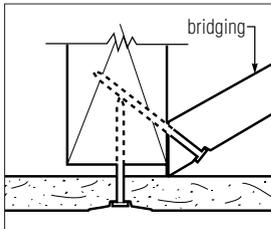

Fig. 12
**Cause:** Bridging, headers, fire stops or mechanical lines have been installed improperly so as to project beyond face of framing, preventing panels from contacting nail surface (Fig. 12). Result will be loose board, and fasteners driven in area of protrusion will probably puncture face paper.